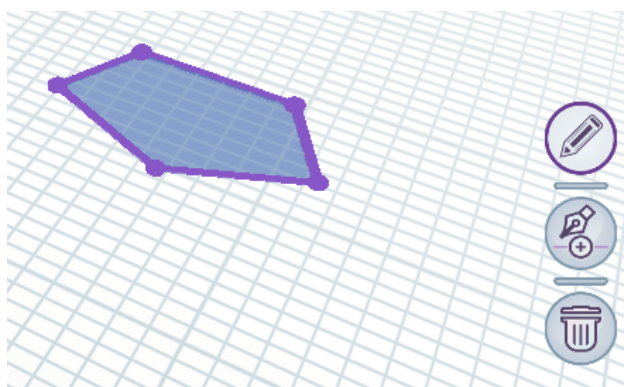

Figure 88 – 2D shape converted into a spline
- selected 2D shape is converted into a spline. If a figure has vertices, then they all will become control points. A spline formed from a sphere or an ellipsoid will have 4 control points at the intersection of the shape with two perpendicular axes. The appearance of the figure will change to the spline one (Figure 88);